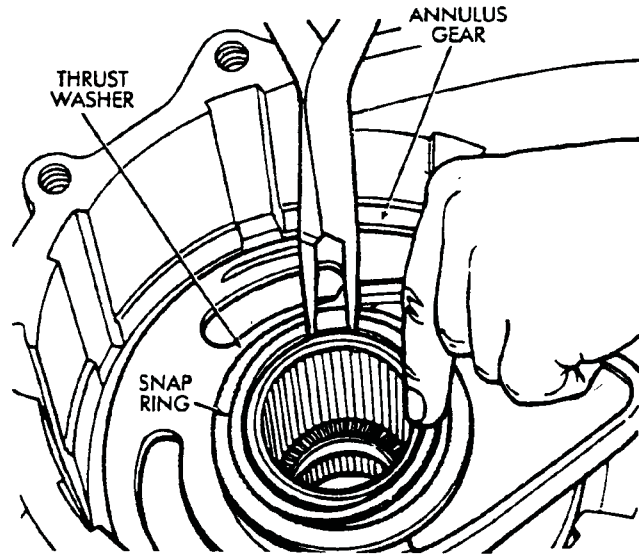

Fig. 4-18 Remove Annulus Gear Snap Ring And Thrust Washer
25. Remove annulus gear snap ring and thrust washer (Fig. 4-18).